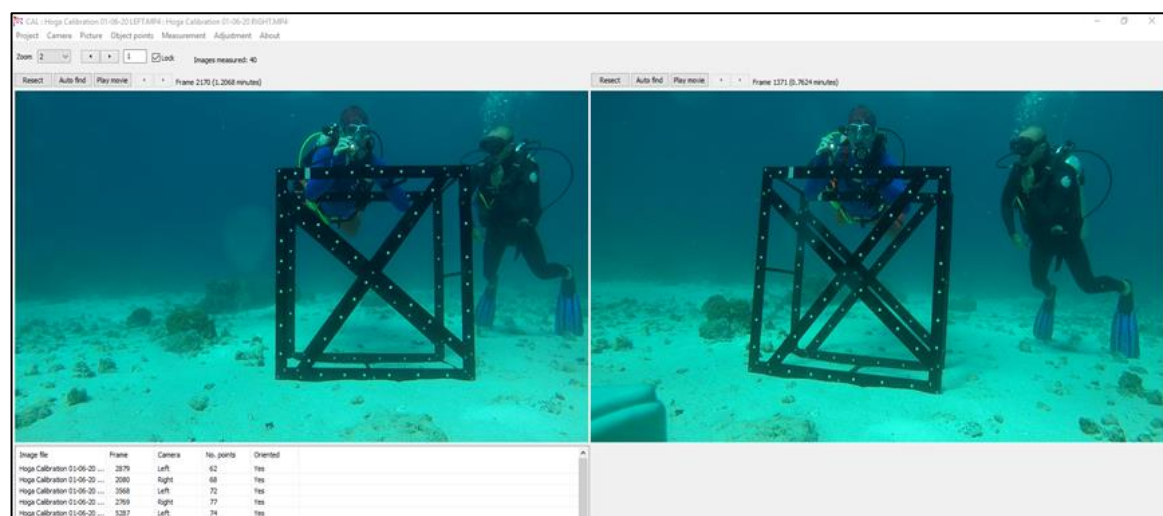

Figure 3. Screenshot from CAL showing left and right videos which have been synchronised using the appearance of light from a torch.
- Check that both videos are aligned by using the arrows directly above each (left and right) to step through the frames one by one. When confident they are aligned (i.e., both showing the frame in which the torch comes on for the first time - **Figure 3**), check the 'lock' box to ensure they will remain synchronised for the rest of the calibration process.